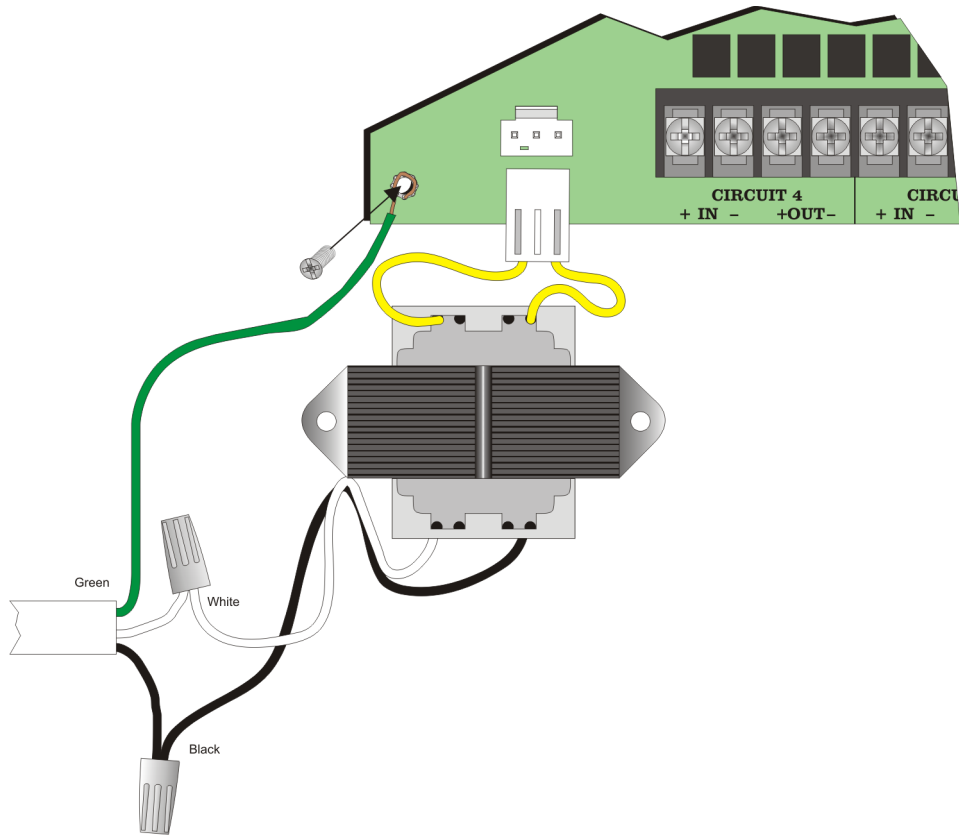

Figure 4-23 AC Connections
4. Connect AC to the Transformer as Shown in Figure 4-23.
5. Plug the transformer output to the AC connector on the control panel as shown in Figure 4-23.